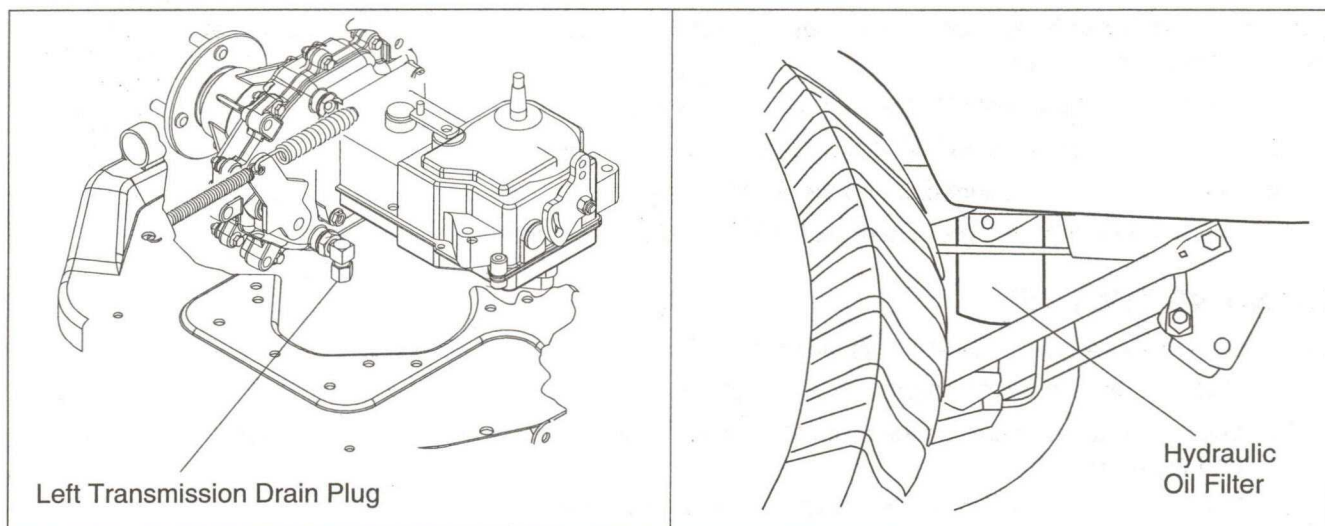

Figure 16
8. Remove the hydraulic filter to allow hydraulic oil to drain. (See Figure 16)
9. Place a small pan under the skid plate and drain oil from both left and right axles. (See Figure 16)